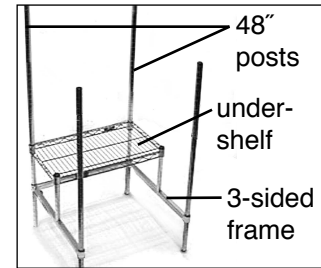

Figure 2b
- Insert the 48" posts through remaining undershelf collars and slide assembly down onto split sleeves. 7" posts should rest on 3-sided frame (see Figure 2b).